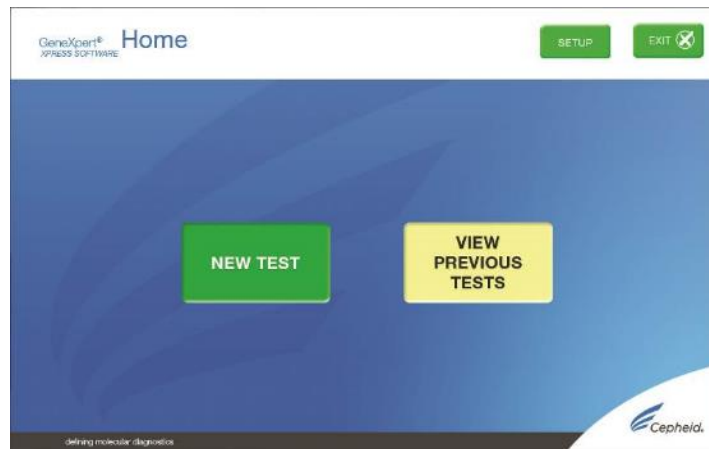

Figure 12. VIEW PREVIOUS TESTS button on Home Screen
1. Touch the **VIEW PREVIOUS TESTS** button on the Home screen shown in Figure 12.